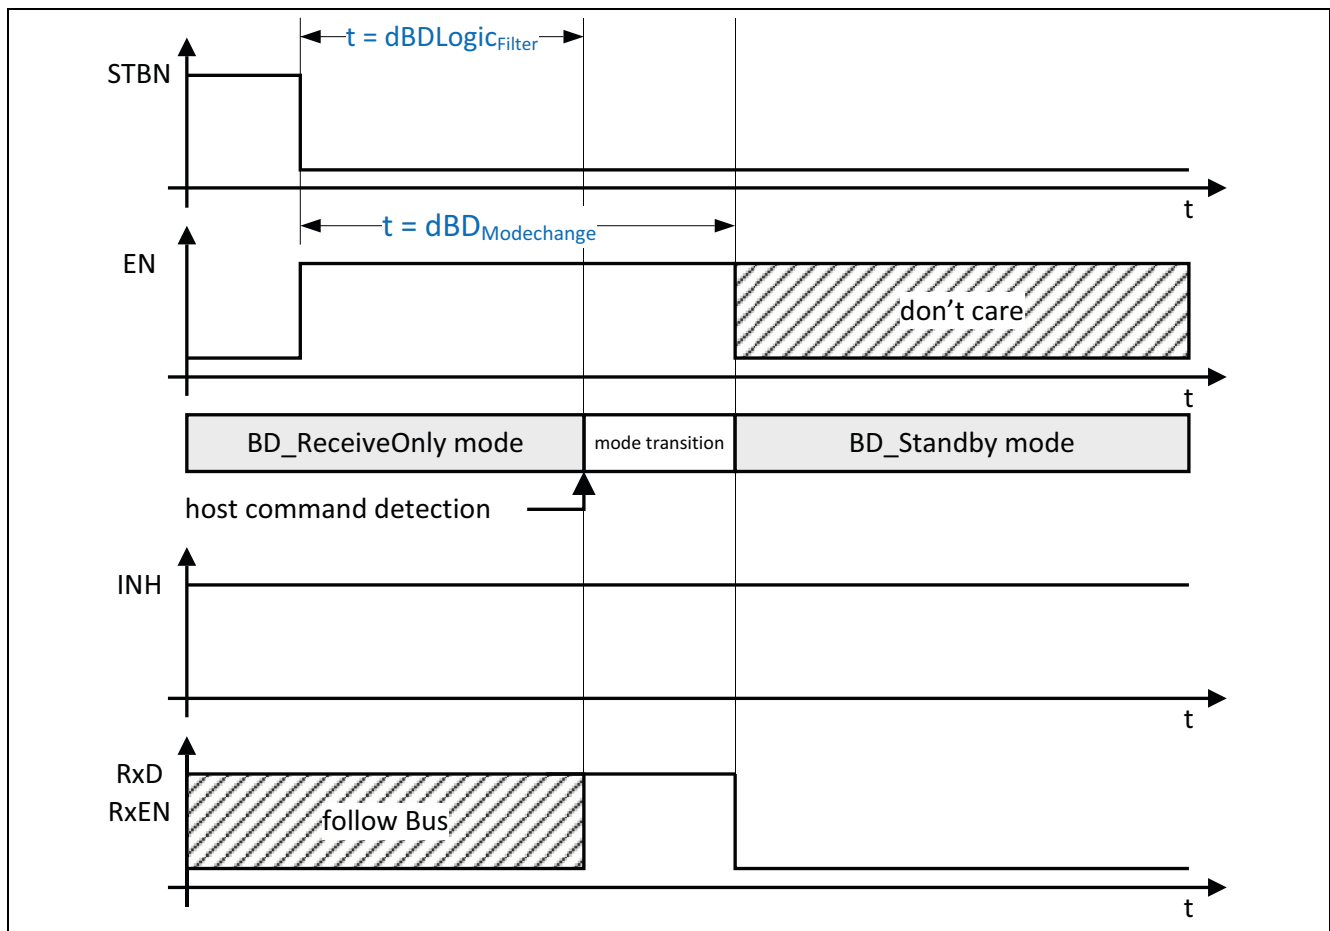

Figure 34 Changing over to BD_Standby, with an active wake-up flag
- 10) The BD_GoToSleep command cannot be executed while the wake-up flag is active (see Figure 34). The TLE9221SX changes over directly to BD_StandBy mode.
Applying the BD_GoToSleep host command to the TLE9221SX, while the wake-up flag is active, changes the operating mode directly to BD_Standby mode. The RxD and RxEN outputs are set to “low” and indicate a previous wake-up event (see Figure 34 and Table 14).